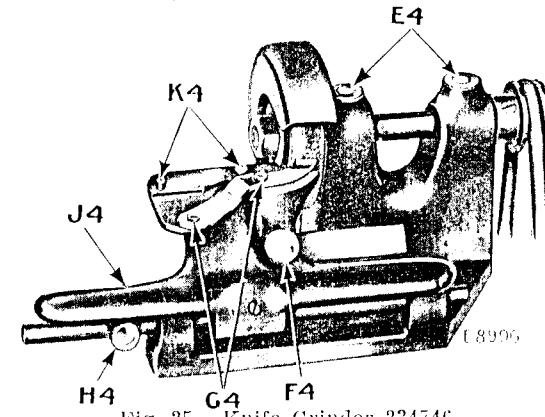

Fig. 25. Knife Grinder 234746
To Sharpen Lower Knife 234719, place it in position on the two rear pins (K4, Fig. 25). Loosen the lock screw (H4, Fig. 25) and move the knife carrier (J4, Fig. 25) until the left edge of the blade is in line with the left edge of the grinding wheel. Then move the lock screw (H4) to the right until it bears against the casting and securely tighten the lock screw (H4). (The setting of the lock screw (H4) is important, as it prevents the body of the lower knife from being ground. After the lock screw has been once properly set, it is not necessary to change its position when sharpening either knife.) Turn the adjusting screw (F4, Fig. 25) in or out until the knife bears lightly against the grinding wheel. Start the grinder and with the forefinger of the left hand pressing lightly on the knife between the pins, sharpen the full length of the cutting edge of the knife by moving the knife carrier (J4) from side to side. The least possible amount ground off is usually sufficient.
To Sharpen Upper Knife 234720, place it in position on the two pins (G4, Fig. 25). Set the adjusting screw (F4) and sharpen the blade as instructed above for the lower knife.
**Lubrication:** Oil should be regularly applied to the two ball oilers (E4, Fig. 25).